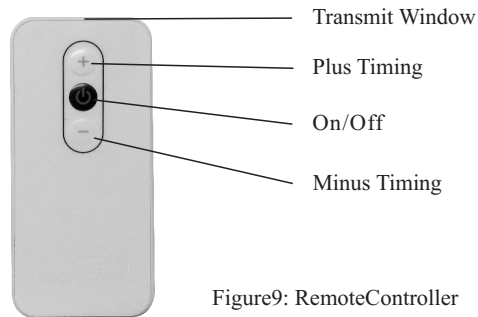

Figure9: RemoteController
- ▶ Use infrared remote controller to operate the device. (Figure 9)